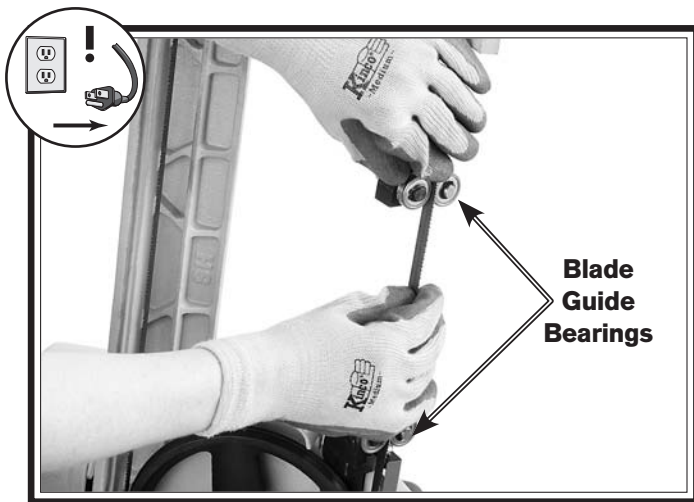

Figure 26. Installing blade.
4. Install the new blade through both blade guide bearings, as shown in **Figure 26**, and around the bottom wheel.